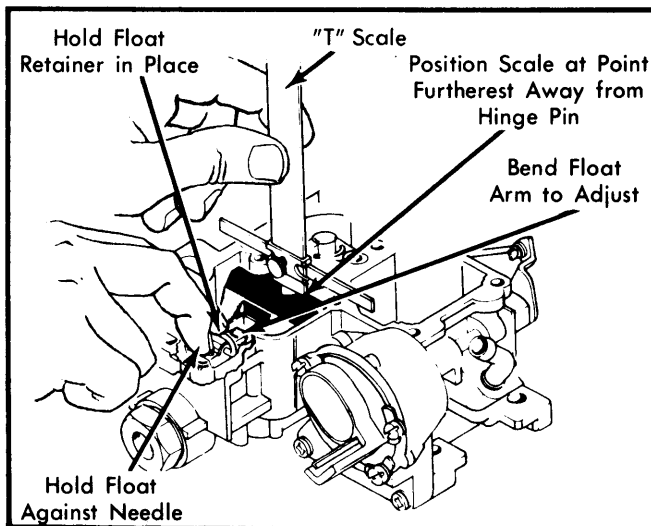

Fig. 2 Adjusting Float Level
- 1) Remove air horn and gasket from float bowl. Hold float retainer firmly down while pushing float down against needle. See Fig. 2.